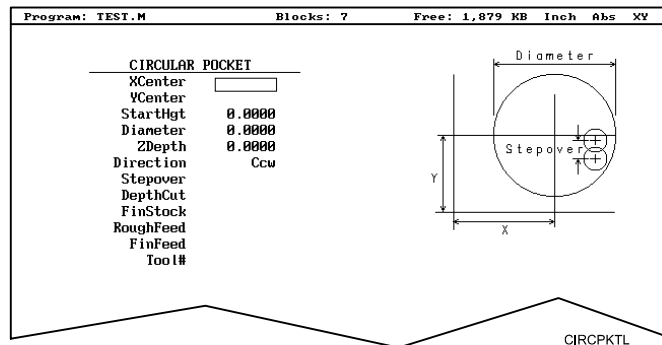

Figure 5-16, CIRCULAR POCKET Graphic Menu
2. Move the highlight to select **Circular**, and press **ENTER** to display the **CIRCULAR POCKET** Graphic Menu. Refer to **Figure 5-16**.